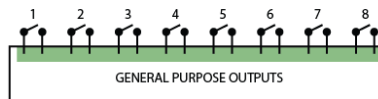

Figure 2.3: GPO Pinout
Each GPO port features a normally-open (NO) relay for switching external equipment. The relay can switch 250VAC/30VDC up to 2A. Please refer to figure 2.3 for the pinout of the GPO connector.